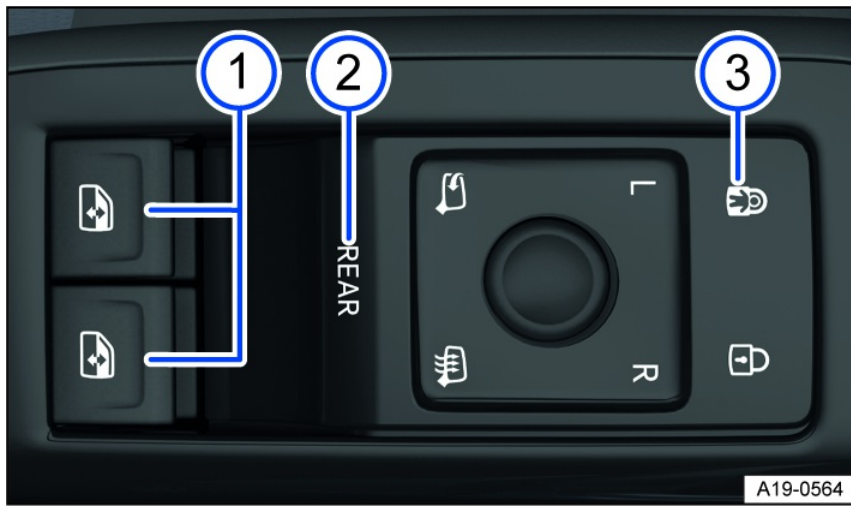

Fig. 56 In the driver door: Buttons for the front and rear power windows.
- ① Buttons for the power windows.
- ② Control **REAR** for activating the rear power windows and convenience opening and closing.
- ③ Control for deactivating the power window buttons in the rear doors and for switching on the electric child safety lock.
As standard, the  *fig. 56* ① buttons can be used to operate the power windows in the front doors.
1. Press the control panel  *fig. 56* ③.
1. Briefly press the control **REAR** *fig. 56* ② to activate operation of the power windows in the rear doors.
2. Briefly press the control **REAR** *fig. 56* ② again to activate operation of the power windows in the front doors.